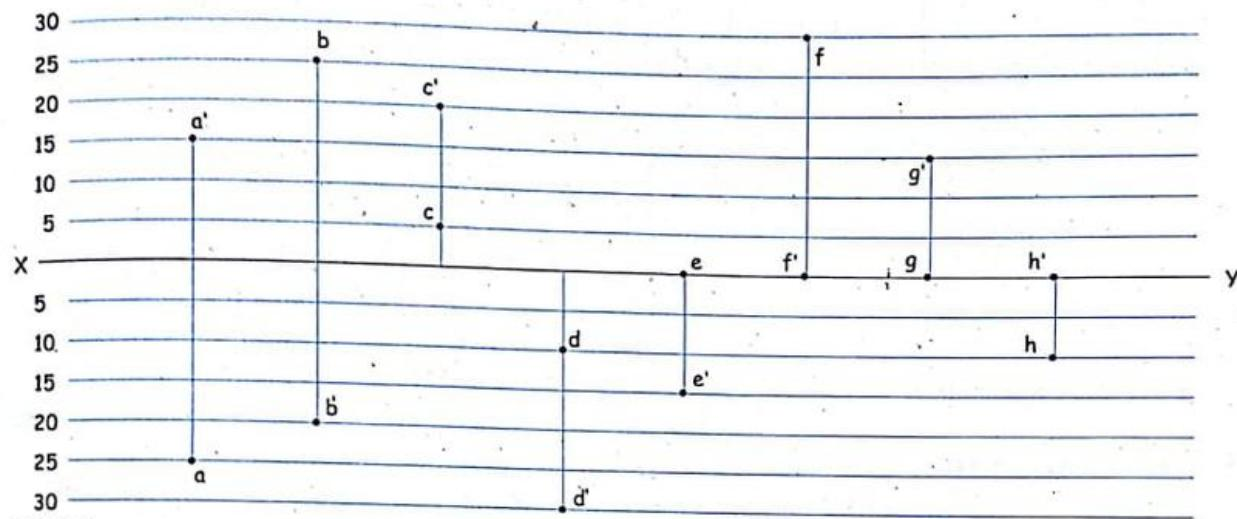

FIG. 7.16
2. The figure 7.16 shows the projection of points. State the position of each with respect to the H.P. and the V.P.